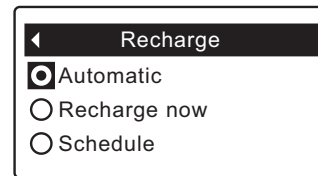

FIG. 63
4. Press the SELECT (○) button to display the Recharge menu (See Figure 63).